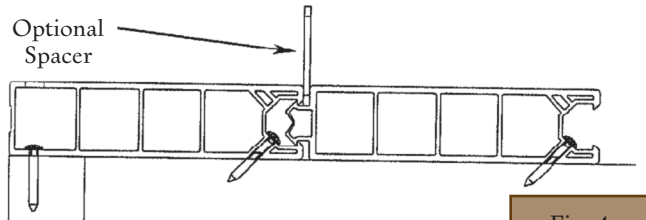
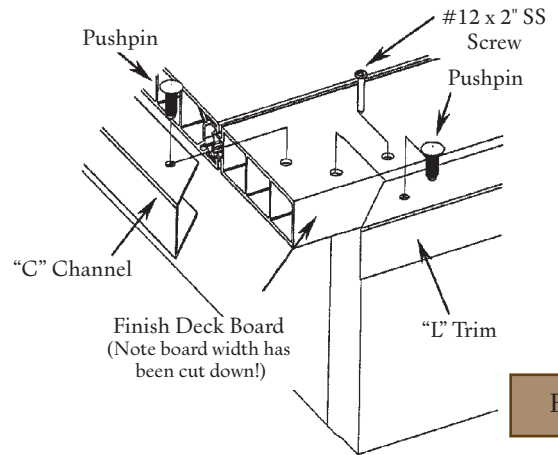
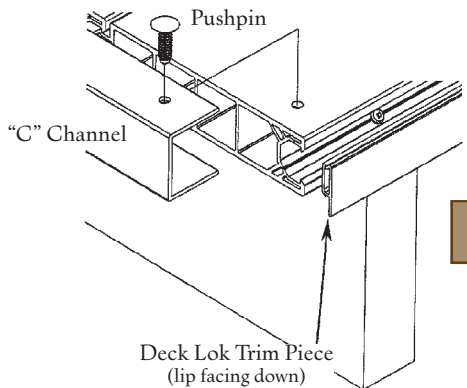

Fig. 4
Fig. 5
Fig. 6
Step 5 Secure edge of deck board to joist as in step #3. (Open-groove side only!) (Fig. 4) If a gap is desired, use a spacer between deck boards at each screw location to maintain the gap between the deck boards. Repeat this process until all of the deck boards are installed. Last deck board may be cut down to desired width. When removing open-groove side of deck board, secure deck plank to joists as in step #2. (Fig. 5)
Step 6 Finish by trimming out the deck edges with "L" Trim and "C" Channel. Use "L" Trim for flush edges and "C" Channel for overhangs. Secure trim pieces with pushpins every 16". Drill 1/4" hole through trim pieces and deck board, and secure by pressing pushpin in place. (Fig. 5) The Deck Lok trim piece can also be used to finish out the front of deck or steps. Install by snapping into place. (Fig. 6)